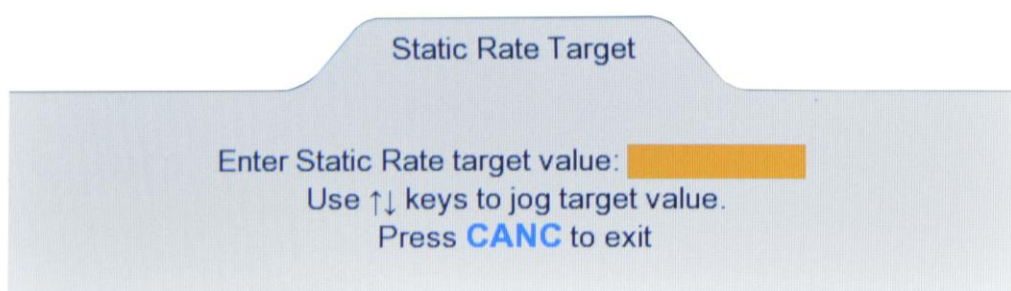
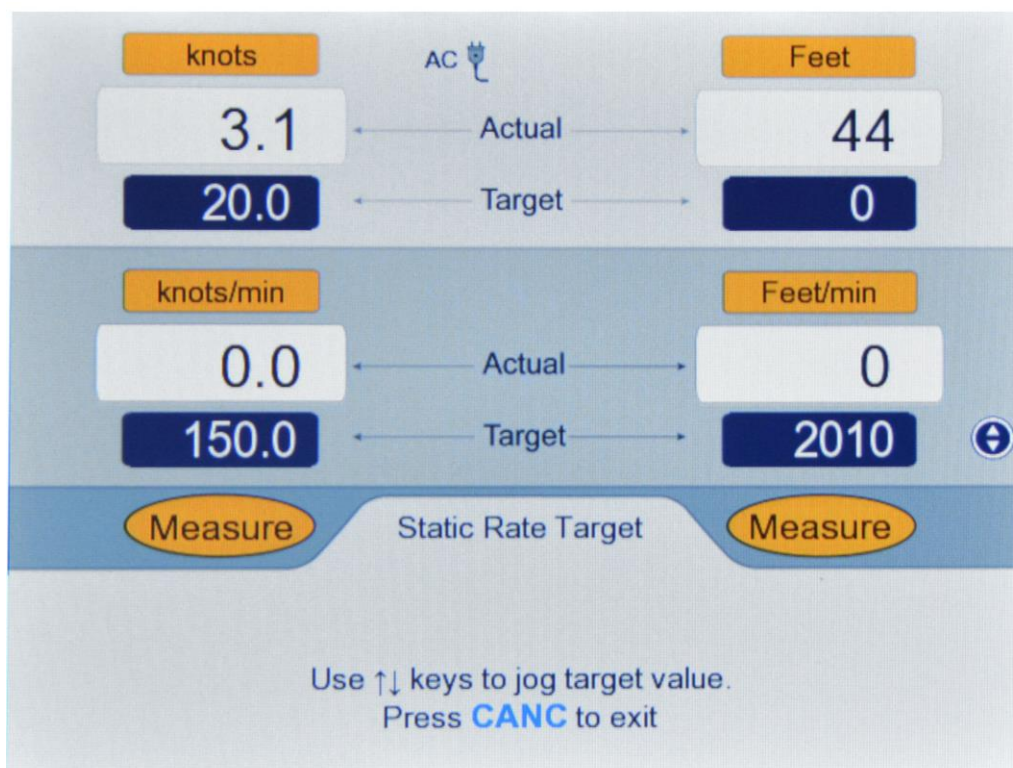

Figure 3.13 : Static Rate Target value
Figure 3.14 : Jog the Static Rate Target value
The Static Rate Target value can be changed only if the key# symbol (7) is displayed to the right of the Static Rate Target value field. Press key '7' on the keypad and the Lower section of the display will appear as shown in Figure 3.13 below.
Figure 3.13 above, pressing the **Up-Arrow** key will make the screen appear as shown in Figure 3.14 below.